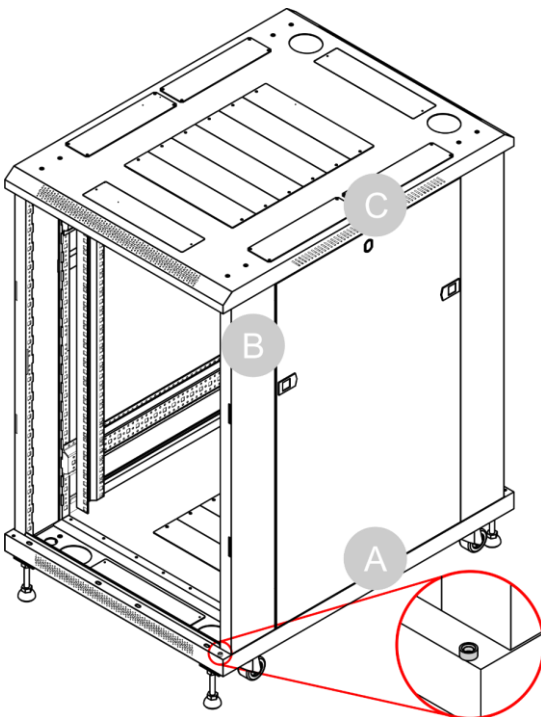

Fig. 39
- 23) Put the **ring (Q)** on top of the hole on the **bottom plate (A)**, as shown in Fig. 39.